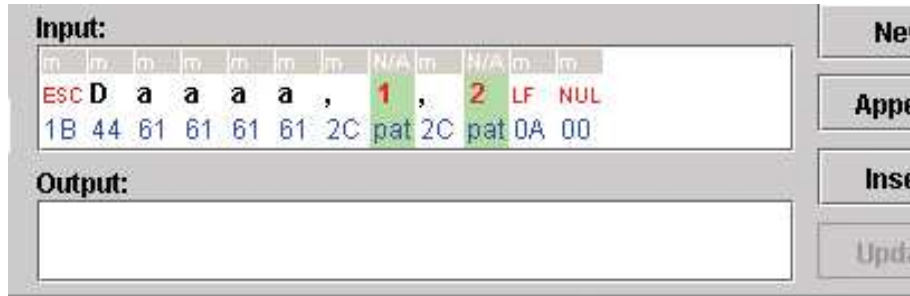

Figure 159 Entering the Input String
25. Press the right arrow key, then the down arrow key and type **0A00** (for LF and NUL). See Figure 159.